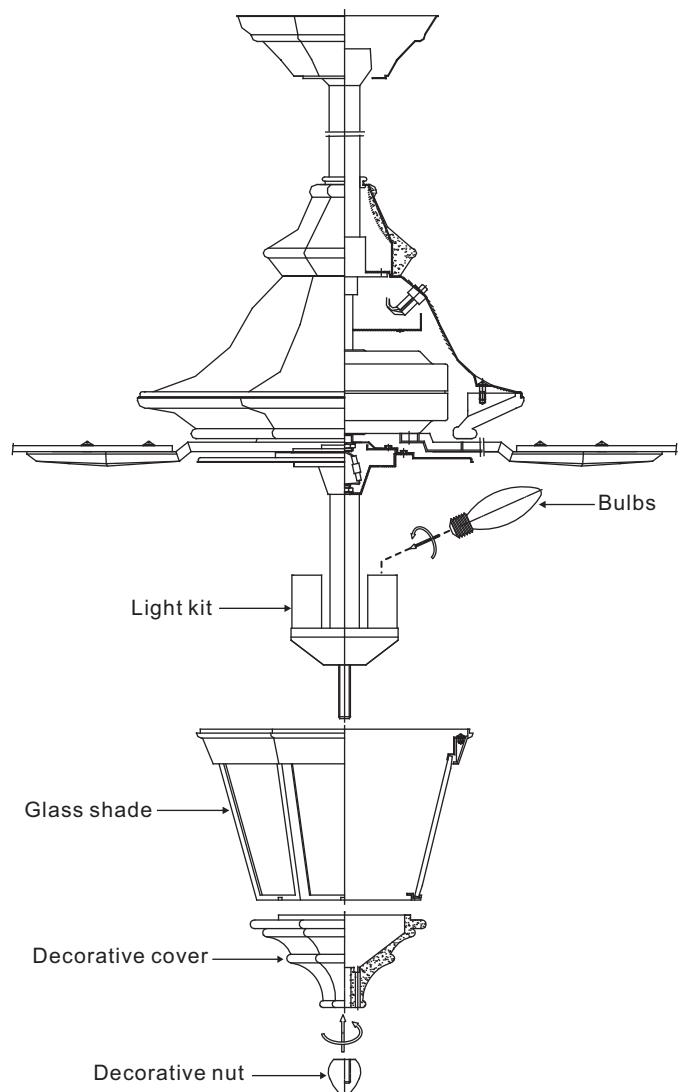

Figure 17
1. Install 3 x 40w candelabra bulbs (included). (Fig. 17)
2. Place the glass shade and glass frame to the light kit with the decorative cover and decorative nut provided. **DO NOT OVER TIGHTEN.** (Fig. 17)